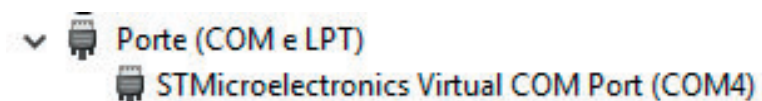

Figure 8.2: Virtual COM if the device is functioning correctly
2. The window updates, but the device isn't recognized: If the device is functioning correctly, it should appear as shown in Figure 8.2.